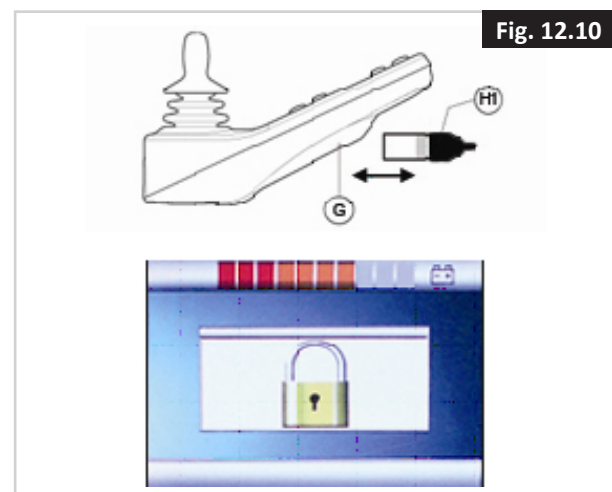

Fig. 12.10
To lock the controller with the special key (H1 in Fig. 12.10):
- Insert and remove the special key into the Charger Socket on the Controller (G in Fig. 12.10). The controller is now locked and the following screen will be displayed.
- Insert and remove the special key into the Charger Socket on the Controller (G in Fig. 12.10). The controller is now unlocked.